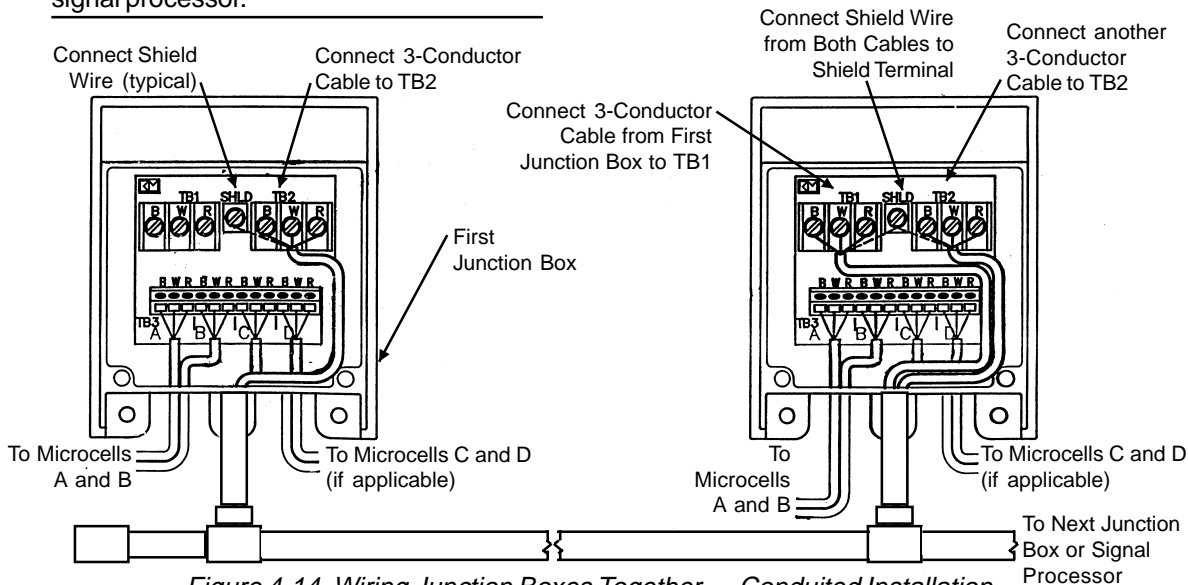
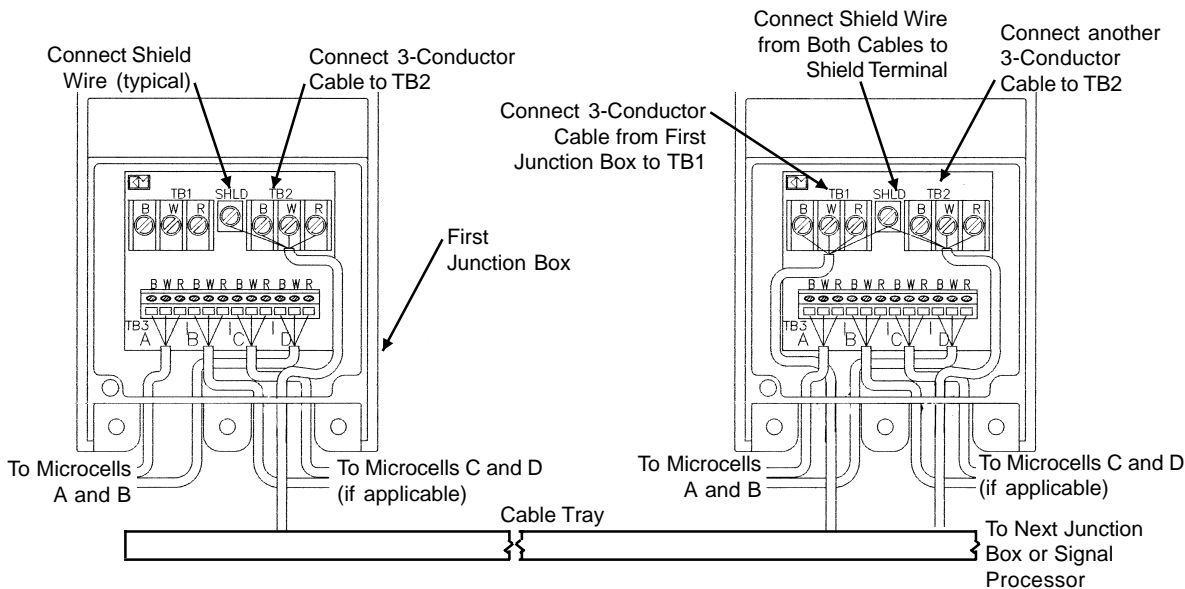

Figure 4-14. Wiring Junction Boxes Together — Conduited Installation
Figure 4-15. Wiring Junction Boxes Together — Non-Conduited Installation
2. See Figure 4-14 (conduited installation) or Figure 4-15 (non-conduited installation). Route the 3-conductor cable through the fitting into the junction box farthest from the signal processor. Connect wires from the cable to the TB2 terminal in the junction box: black wire to B terminal, white wire to W terminal, and red wire to R terminal. Connect the cable shield wire to the Shield terminal between TB1 and TB2.